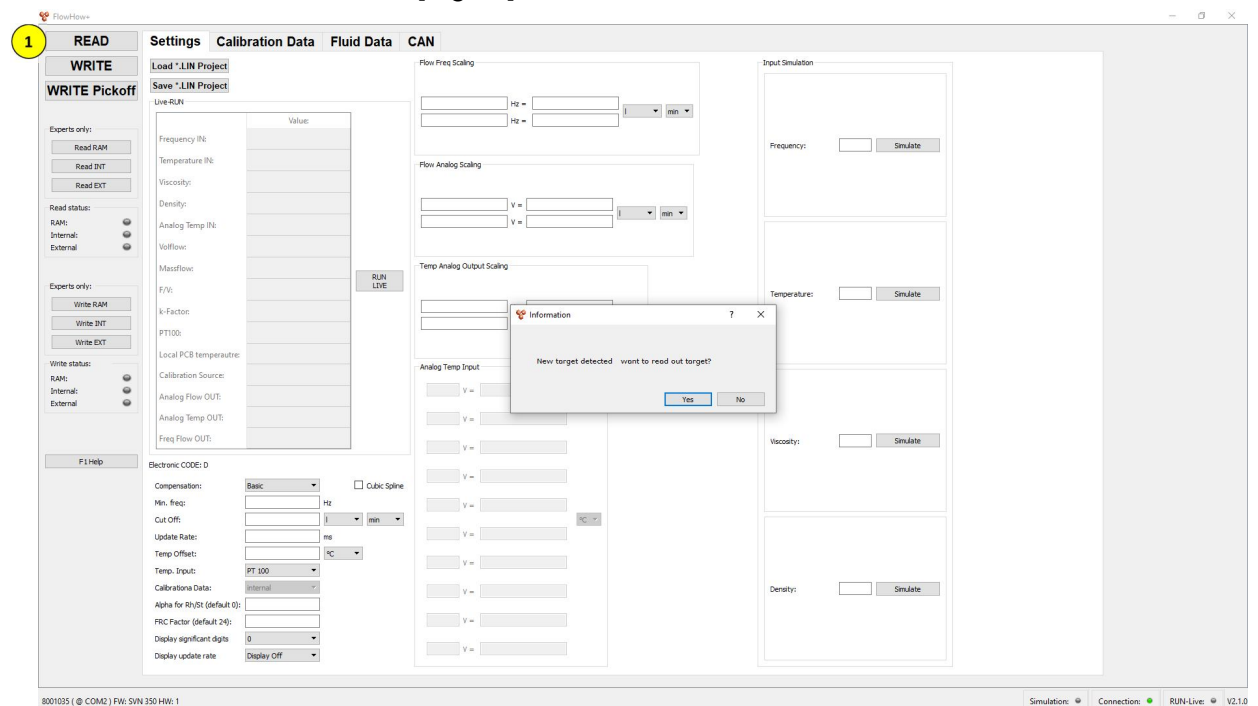

Fig. 2 Main Screen of the FlowHow+ Software
Launch the "FlowHow+" software. [Fig. 2 ]
- Press „READ“ (1) button. [Fig. 2 ].